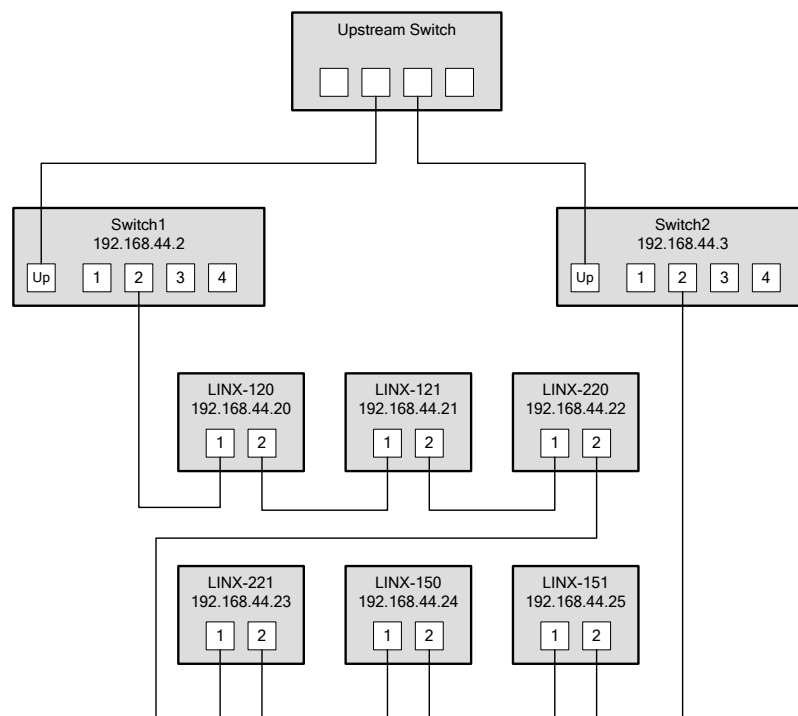

Figure 250: Ring Ethernet topology
**Ring topology:** In this setup, the devices connected in a chain and each end of the chain is connected to a different upstream switch. This topology requires STP. If a single device is powered off, the STP will automatically recalculate the spanning tree so that all other devices in the chain are reachable. Only if two devices are power-off at the same time, the devices between them will not have an Ethernet connection. In Figure 250, the L-INX devices with IP addresses from 192.168.44.20 to 192.168.44.25 are connected in this way.